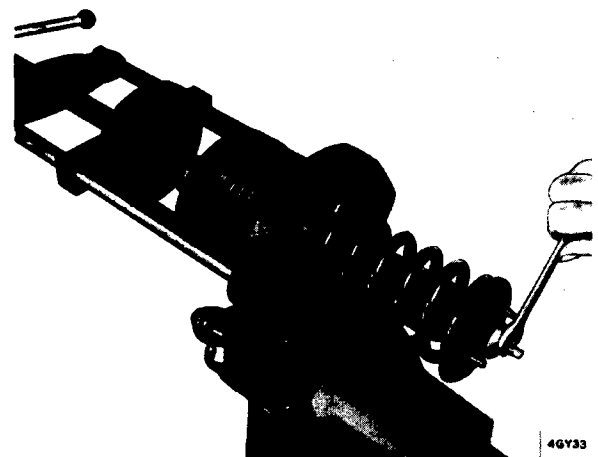

Fig. 29. Using press S.4221A with adaptor S.4221A-5 to compress the front road spring
2. Using a press, compress as many coils as possible of the road spring just sufficient to relieve the load from the damper top nuts, Fig. 29.
3. Remove the locknut (1), nut (2), washer (3) and rubber (5) from the top of the damper.
5. Withdraw the damper (11) from the upper spring pan (7) and road spring (10).
6. Remove the lower spring pan (12) and collets (13) from the damper (Woodhead-Monroe type only).
1. Fit the washer (9) and rubber (8) to the top of the damper (11).
2. Fit the collets (13) and lower spring pan (12) to the damper (Woodhead-Monroe type only).
3. Extend the damper (11) and insert it into the road spring (10) and upper spring pan (7).
4. Using a press, compress the road spring sufficient to enable the completion of the damper attachment to the upper spring pan, Fig. 29.
5. Fit the rubber (5), the washer (3), nut (2) and locknut (1).